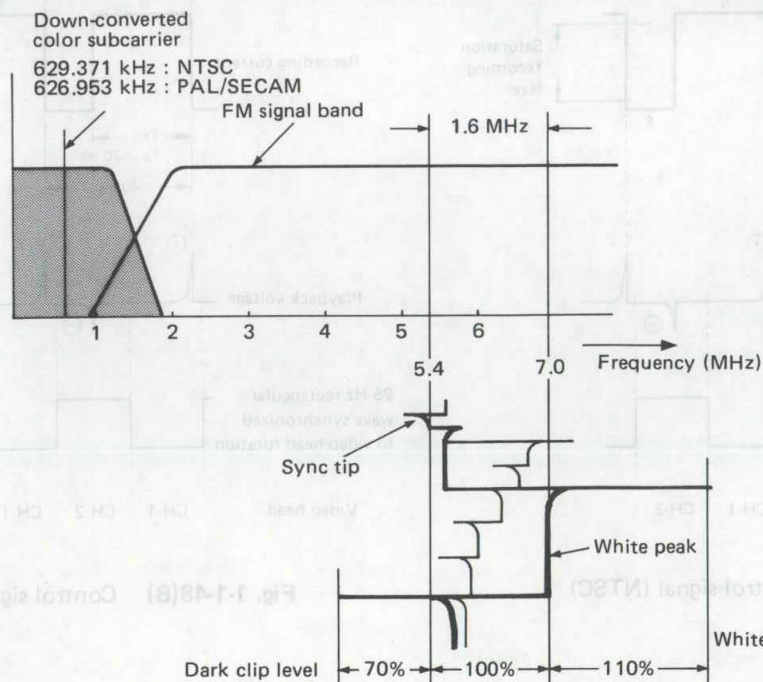

Fig. 1-1-46 Recording spectrum
White clip level and dark clip level are as shown in Fig. 1-1-46.
3. FM carrier frequency and deviation (See Fig. 1-1-46.)
Fig. 1-1-46 shows recording spectrum when signal input is a video signal.